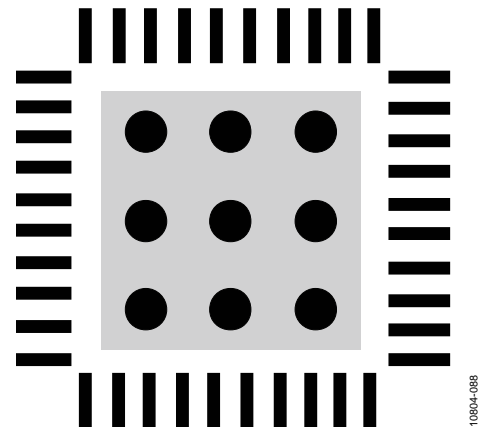

Figure 96. Exposed Pad Layout Example, Top View (Not to Scale)
- Vias should be placed to connect all layers of copper, allowing for efficient heat and energy conductivity. For an example, see Figure 96, which has nine vias arranged in a  $3 \times 3$  grid in the pad area.